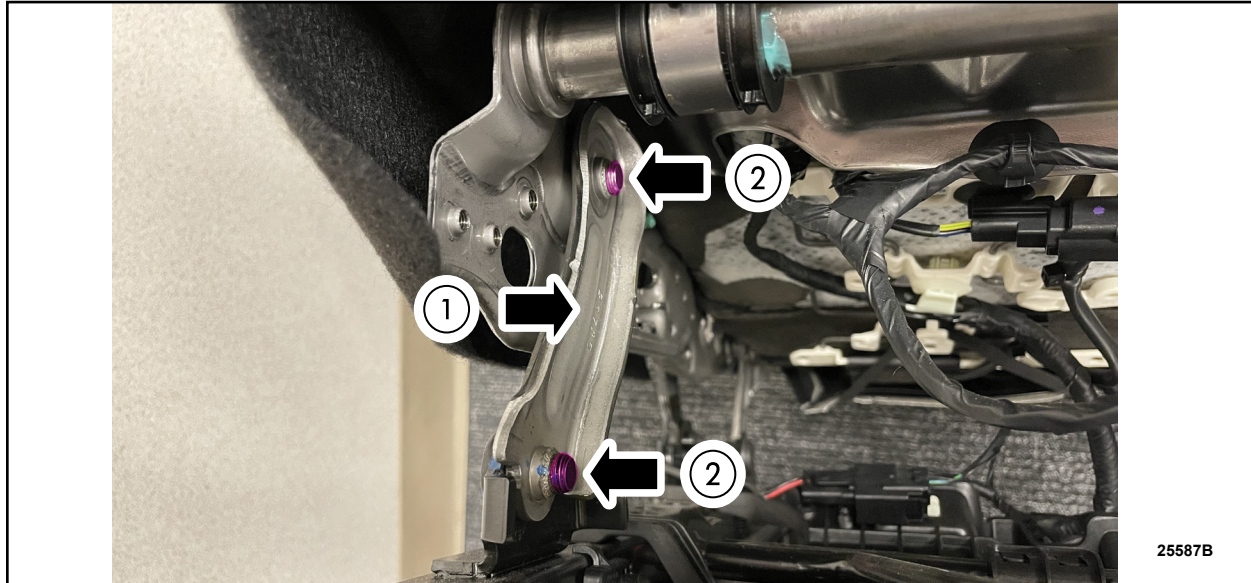

FIGURE 2
3. On both seats, locate the height-adjust links (1) and bolts (2). Paint marker the threads on all 4 pivot bolts for non-tilt seats and 2 lower pivot bolt threads for tilt seats. See Figures 2 and 3.